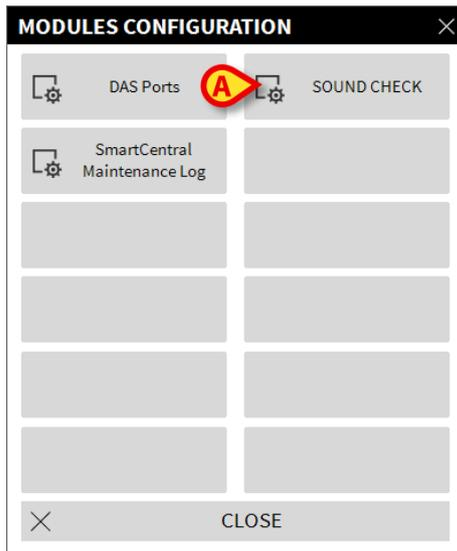

Fig 89
The following menu opens (Fig 89).
- Click on **Sound Check** (Fig 89 A)